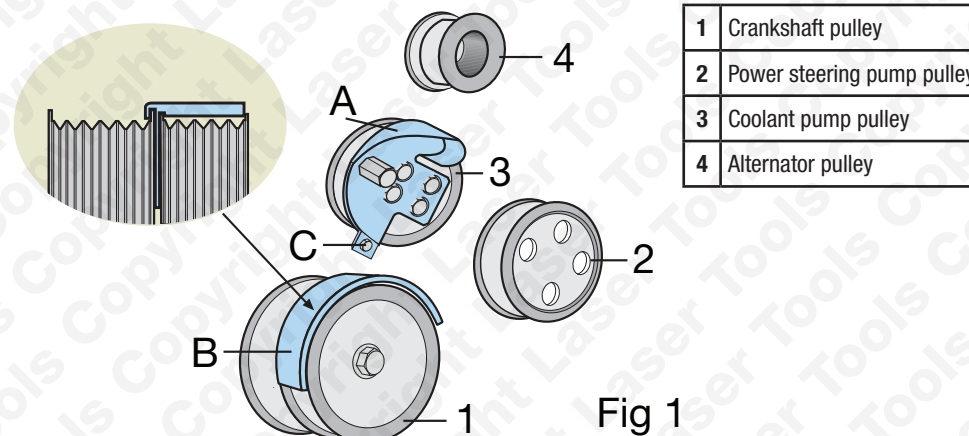

Fig 1
3. Refer to Fig 1: Locate installation tool (A) over coolant pump pulley (3). Securing bracket (C) is located behind coolant pump pulley and then tightened.
4. Locate drive belt guide tool (B) over crankshaft pulley (1) and rotate so that top centre of guide tool is at 12.00 o'clock. (Refer to Fig 1.).